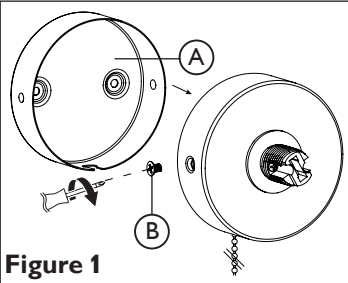

Figure 1
Refer to Figure.1 Detach the wall back (A) from the product by removing the side screws (B).Keep screws safe for refitting later.